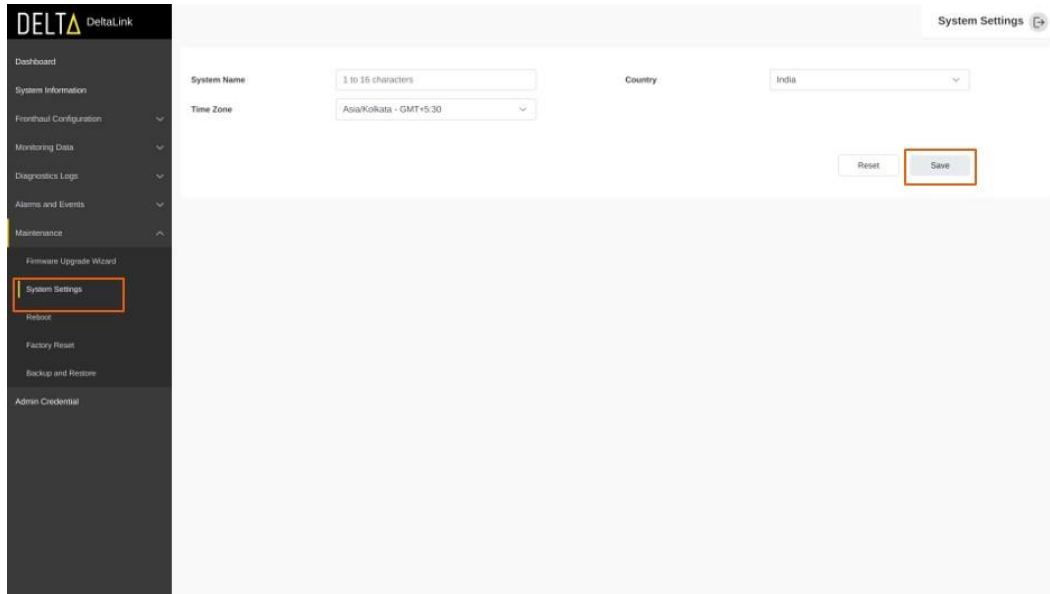

Figure 54 System Settings
- To view/configure device settings, navigate to "Maintenance" and select "System Settings" from the expanded menu as shown in the Figure 54 below.